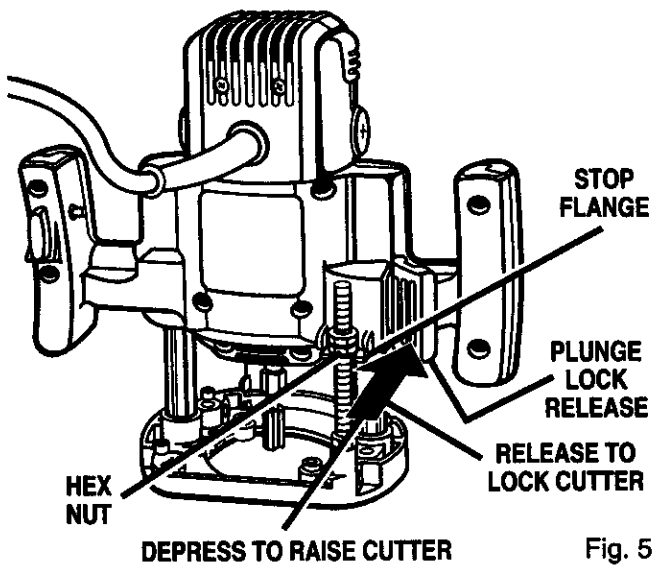

Fig. 5
See Figures 5, 6 and 7.
- Raise cutter by depressing plunge lock release. See Figure 5.
- Adjust cutter until it is inside router subbase. See Figures 5 and 6.